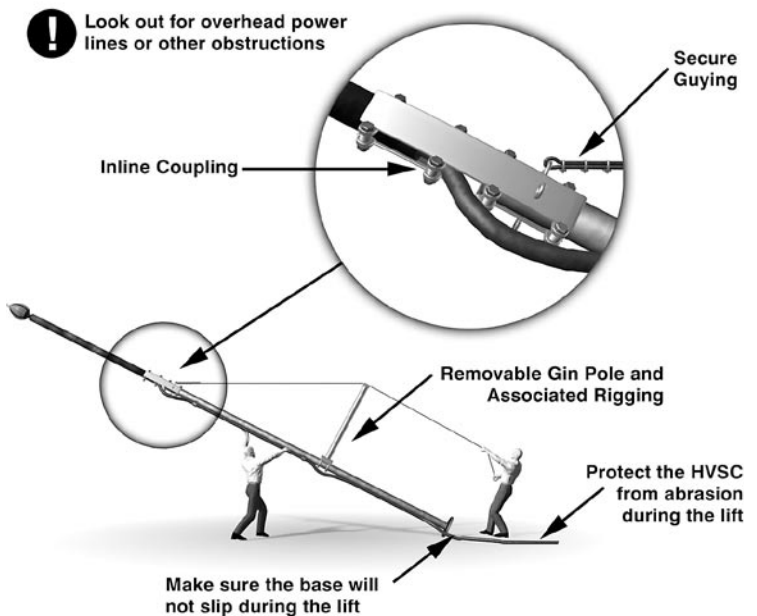

Figure 34.
- Fit the HVSC downconductor in and out of the slot in the coupling. Refer to Figure 34 on page 37.